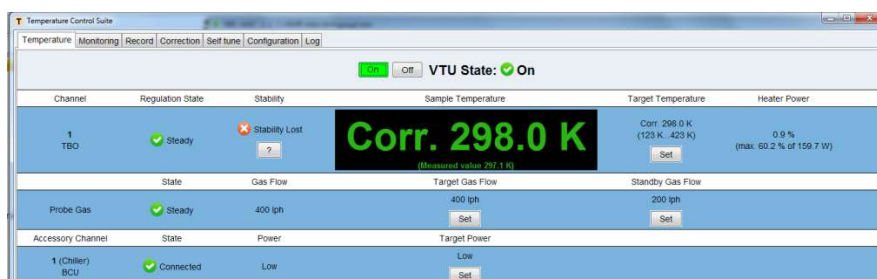

Figure 19: Turning on the VTU
3. Turn on the VTU by clicking the ON button in the top row of the “Temperature” tab (Figure 19). Allow the temperature to decrease to the set point and then reduce this further in stages as required.